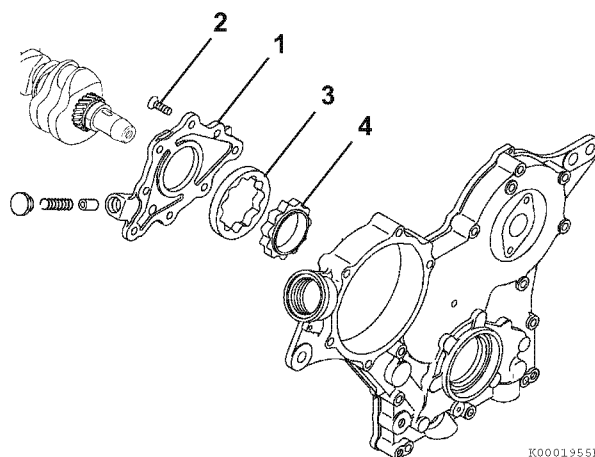

Figure 9-5
3. Remove the seven oil pump cover screws (2, **Figure 9-5**).
4. Remove the oil pump cover (1, **Figure 9-5**) from the gear case.
5. Remove the outer rotor (3, **Figure 9-5**) and inner rotor (4, **Figure 9-5**) from the gear case cover.